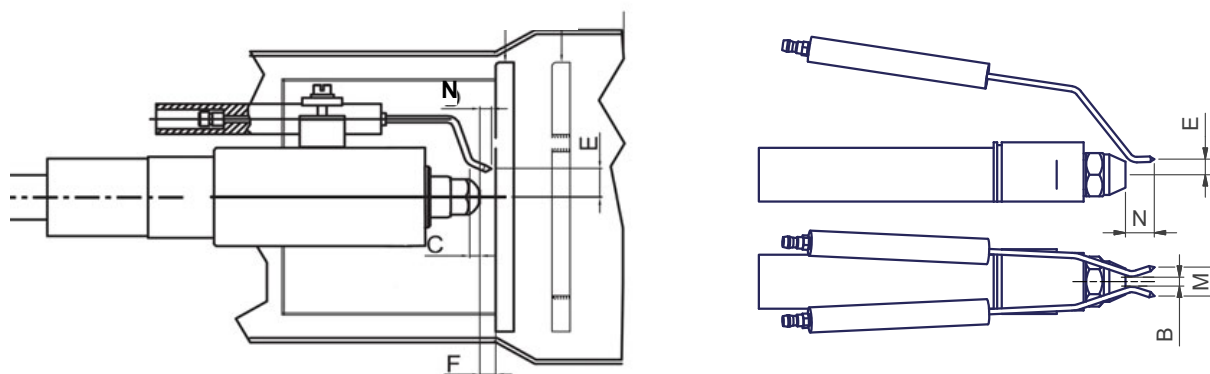

Fig. 26
- Unscrew the oil connections E (Fig. 26) connecting the flexible pipes to the gun L and remove the whole assembly as shown in Fig. 26-Fig. 27.